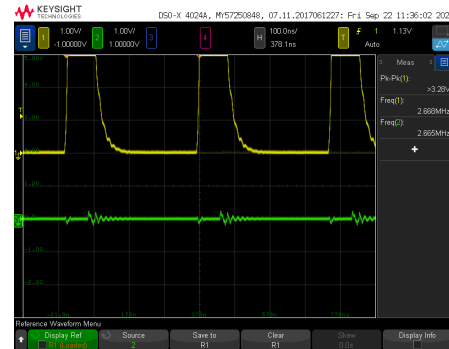

Figure 5: IO d8 and d13 switching
- In figure 5, we see the noise is reduced. The peak noise is around  $200mV$ . Only pins d8 and d13 are switching. We can see here the proximity of the lines has a big impact.